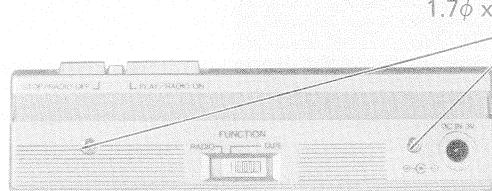

Figure 6
1. Remove four screws **(B)** retaining the back cabinet and the mechanism assembly to take the back cabinet out. (Figures 6 and 7)